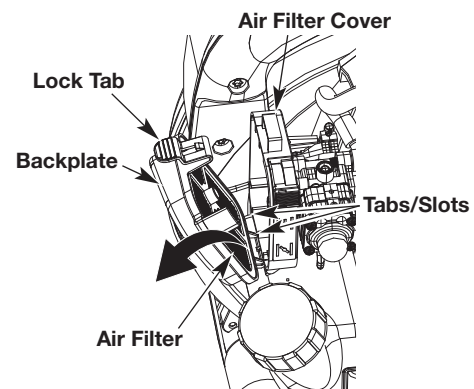

Fig. 12
1. Open the air filter cover: press in the lock tab and swing the air filter cover to the right (Fig. 12).
2. Remove the air filter (Fig. 12).
6. Reinstall the air filter (Fig. 12).
7. Close the air filter cover: insert the tabs on the air filter cover into the slots on the backplate. Swing the air filter cover to the left and press it closed until the lock tab snaps into place (Fig. 12).